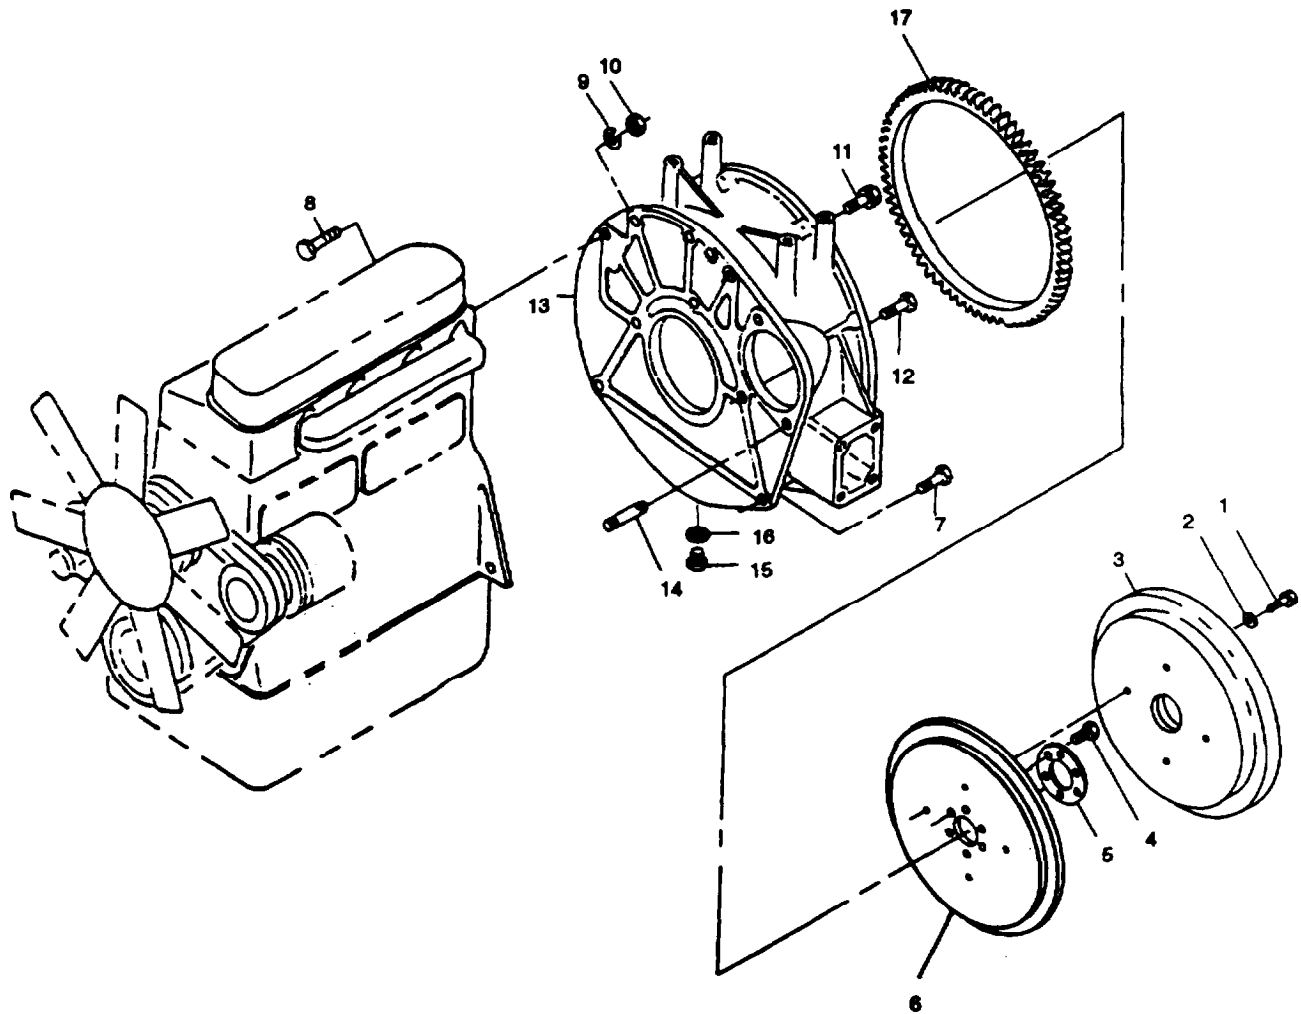
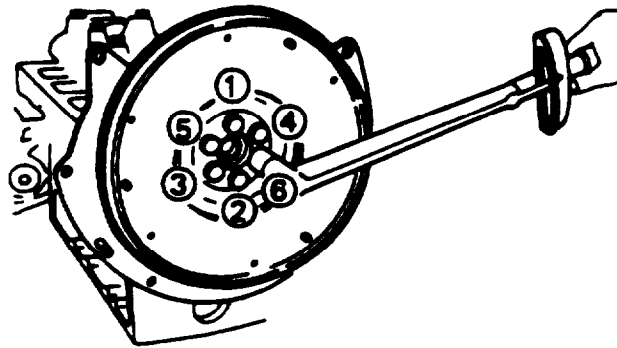

FIGURE 3-107. Flywheel and Housing
FIGURE 3-108. Flywheel Bolt Loosening Sequence
- b. Block flywheel (3, FIGURE 3-107) with a piece of hard wood.
- c. Remove four bolts (1) and washers (2) securing flywheel assembly (3) to basic flywheel (6). Remove flywheel assembly (3)
- d. Loosen six flywheel attaching bolts (4) a little at a time and in sequence shown in FIGURE 3-108.
- e. Remove six bolts (4, FIGURE 3-107), flywheel washer (5), and basic flywheel (6) from crankshaft.
- f. Remove two bolts (7) securing flywheel housing to crankcase.
- g. Remove (8), lockwasher (9), nut (10), three bolts (11), and three bolts (12) securing flywheel housing (13) to engine block. Remove flywheel housing. Discard lockwasher (9).
- h. If necessary, remove two starter mounting studs (14), plug (15) and gasket (16). Discard gasket (16).
- a. Inspect ring gear (17, FIGURE 3-107) for broken, missing, or excessively worn gear teeth.
- b. Inspect flywheel housing (13) for cracks or other damage.
- d. If ring gear (17) is damaged, replace it as follows:
- (1) Using a hammer and chisel, strike around edges of ring gear (17) to remove it from basic flywheel (6).
- a. If removed, install plug (15, FIGURE 3-107) with new gasket (16) in flywheel housing and install two starter mounting studs (14).
- c. Position flywheel housing on engine block and secure with three bolts (12, FIGURE 3-107), three bolts (11), bolt (8), new lockwasher (9), and nut (10). Install two bolts (7) securing flywheel housing to crankcase.